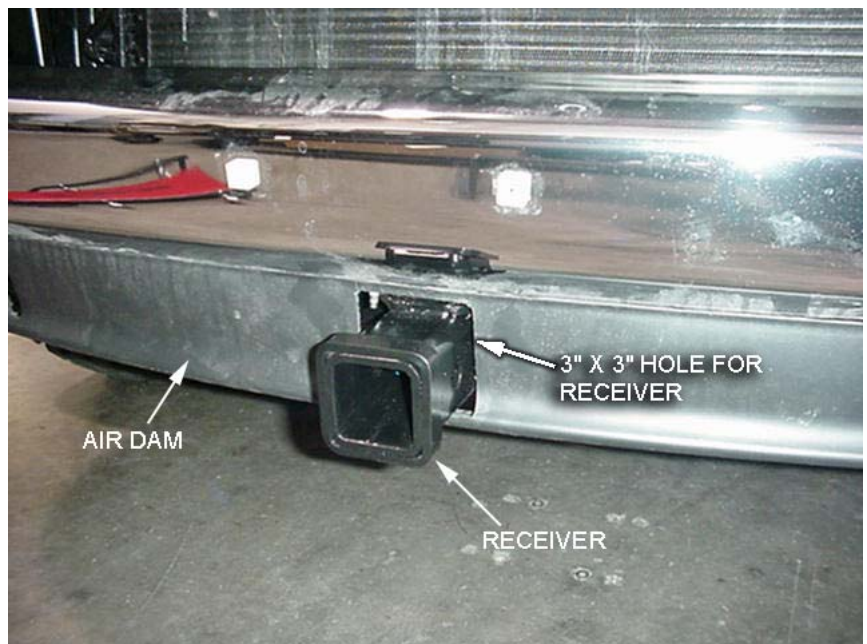

Figure 8 Front air dam and receiver
11. Cut a square hole in the air dam to accept the “receiver” part of the Receiver Assembly. The hole should be 3” x 3” and centered in the plastic air dam that forms the lower part of the bumper. An easy method is to measure and draw the square to be cut out on the air dam. Drill a 3/8” hole through each corner of the square than cut from hole to hole with a suitable saw or tin snips. Smooth rough edges with a file. **See figure 8**
12. Reinstall the bumper using the original six (6) nuts. Center the bumper left to right and tighten the nuts.